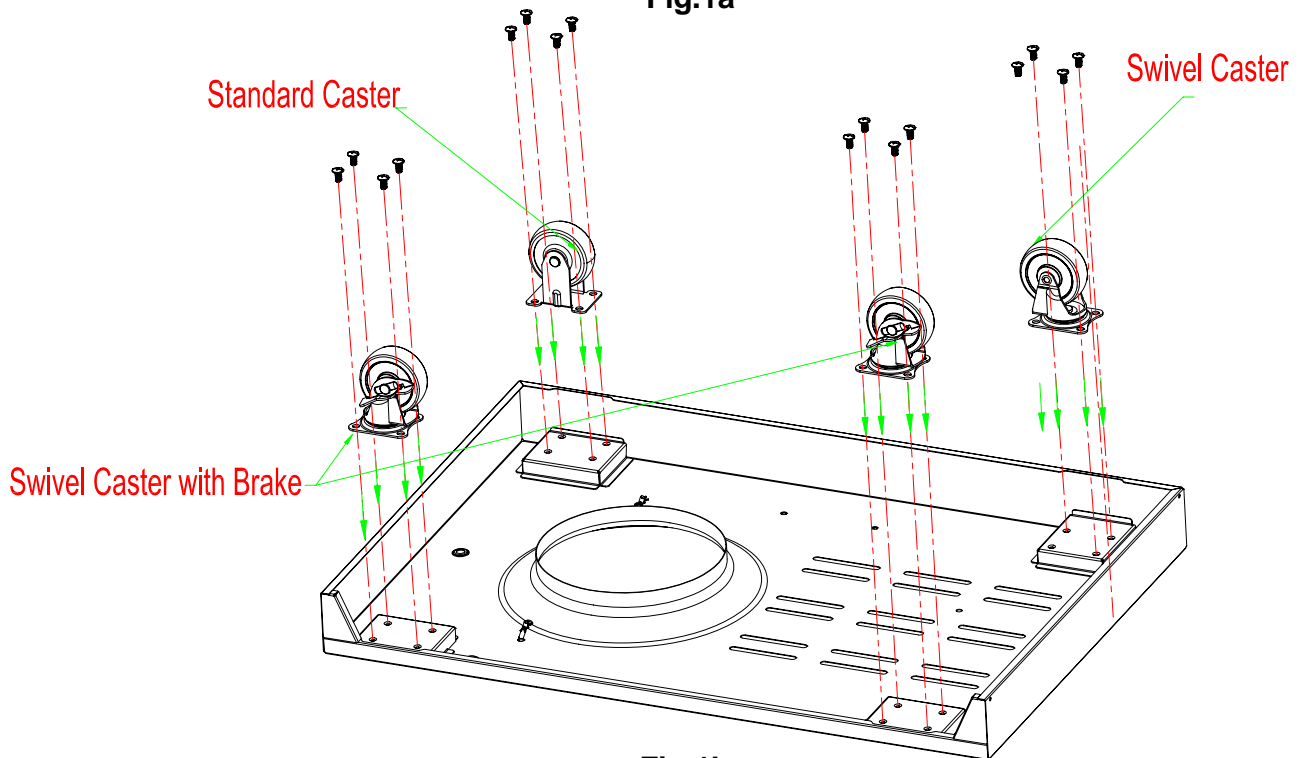

Fig.1b
2. Attach the casters to the bottom shelf with sixteen (16) M6 x 13 screws as shown in Fig.1b.